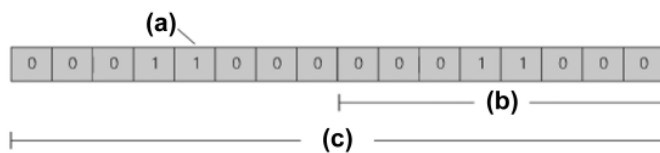

Figure 2-14 Data types for question 49.
49. Identify data types (a) __ , (b) __, and (c) shown in Figure 2-14. 49a. **bit**